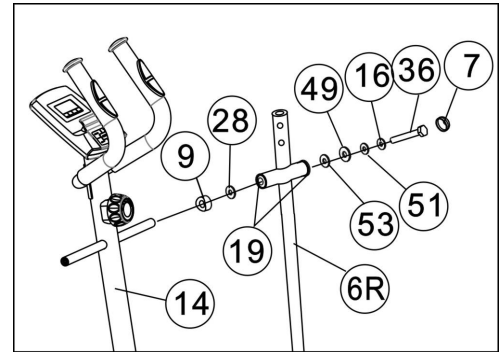

Figure 6
- Insert right Handlebar support (6R) to the right end of horizontal axle of Front upright frame (14) (the long side of the handlebar face inside) and secure it with one Plastic flat washer (53), $\Phi 8$ Big washer (49), $\Phi 8$ spring washer (51), M8 Special washer (16), and M8×20 Bolt (36).
- After assembled the Nut cap (7) to the M8×20 Bolt (36), the right Handlebar support (6R) can move freely.
- Do the same steps as the above to assemble the left Handlebar support (6L). (Refer figure 6)